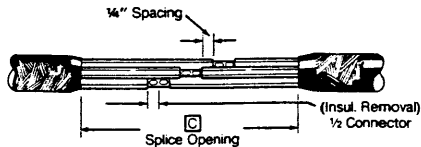

Figure 3
- Cut off individual conductor ends to allow for connector staggering with a maximum splice opening of Dimension C. Provide for 1/4" spacing between connector ends (Table 2 and Figure 3).
- Remove conductor insulations for 1/2 connector length (Figure 3).